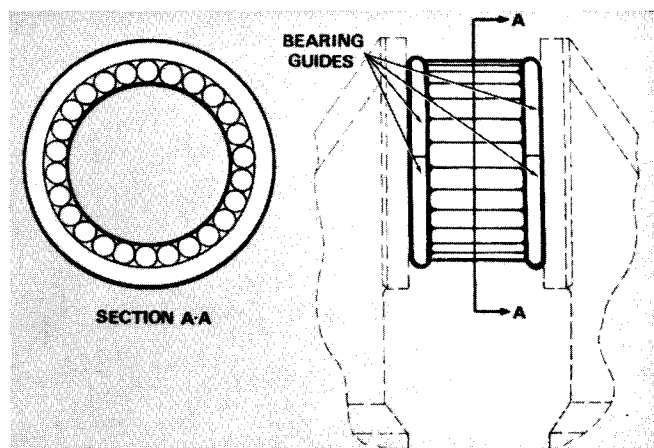

Figure 78. Needle Bearings and Bearing Guides.
- b. The Jacobsen 321 engine uses a connecting rod bearing kit. It consists of two liners for the connecting rod, four crankpin needle bearing guides and 28 needle bearings. The 28 needle bearings are held together in a wax strip for easy installation. (See Figure 78.)